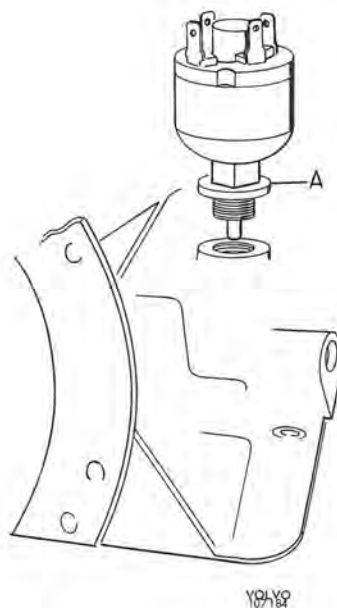

Fig. 4-74. Fitting starter inhibitor switch
2. Fit a new packing (A, Fig. 4-74) onto the contact. Screw in the contact and tighten it to a torque of 8–11 Nm (6–8 lbft) with spanner 2975. Connect up the electric cables.